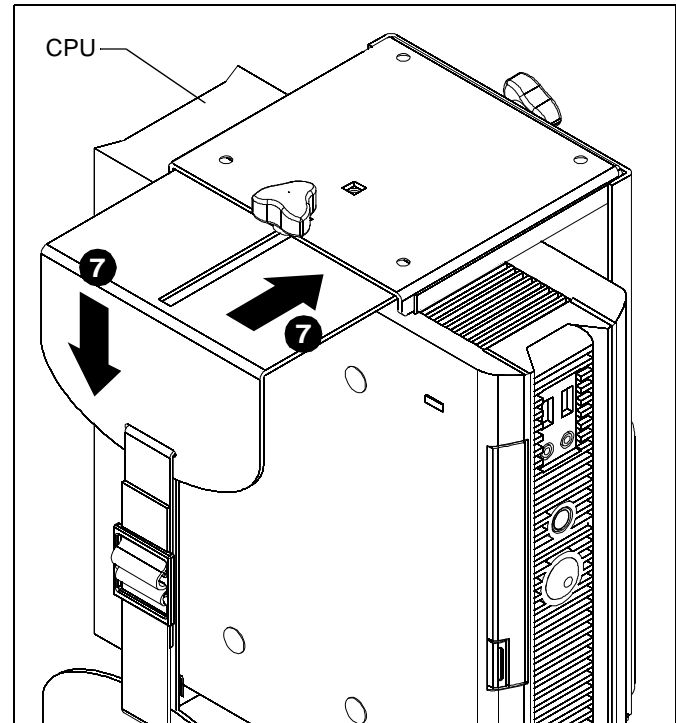

Figure 7
- Set CPU in CPU mount (A). (See Figure 7)
- Use adjustment knobs to compress mount around CPU until CPU is tightly secured in mount (A). (See Figure 7)
- Use the removed mounting bracket as a template and mark through top and bottom holes of wall bracket. (See Figure 7)